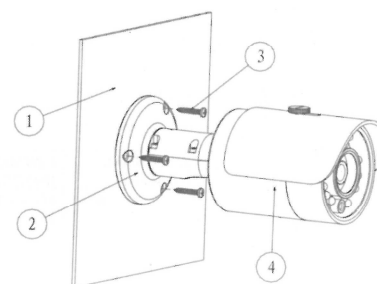

Figure 3-5
In Figure 3-5, ①Installation surface; ②Bracket; ③Screws; ④Camera.